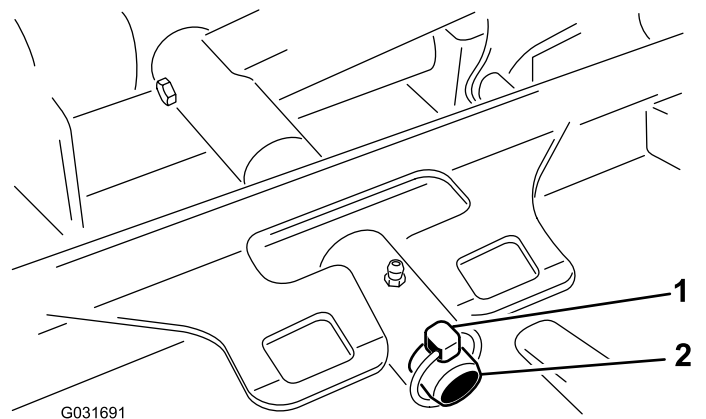

Figure 97
3. Remove the lynch pin securing the deck-carrier frame to the lift-arm pivot pin (Figure 97).
3. Slide the deck-carrier frame onto the lift-arm pivot pin and secure it with the lynch pin (Figure 97).